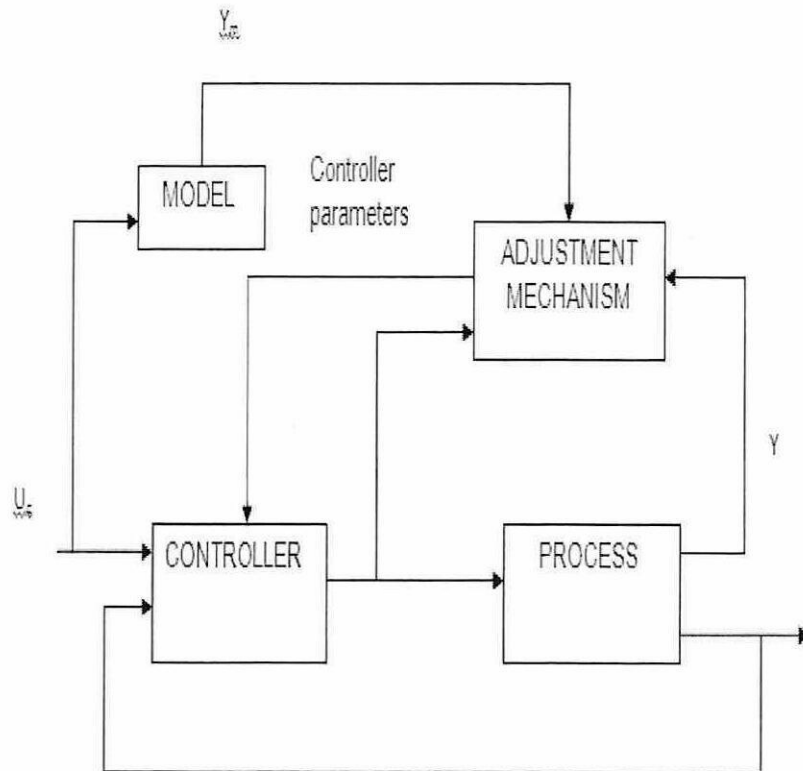

Figure Q5.1: Model Reference Adaptive System (MRAS) control strategy
- (a) Describe **THREE (3)** common circumstances under which adaptive control can be preferred over classical PID controllers. (3 marks)
- (b) The block diagram shown in **Figure Q5.1** shows a model reference adaptive systems (MRAS) in scheduling adaptive control strategy.